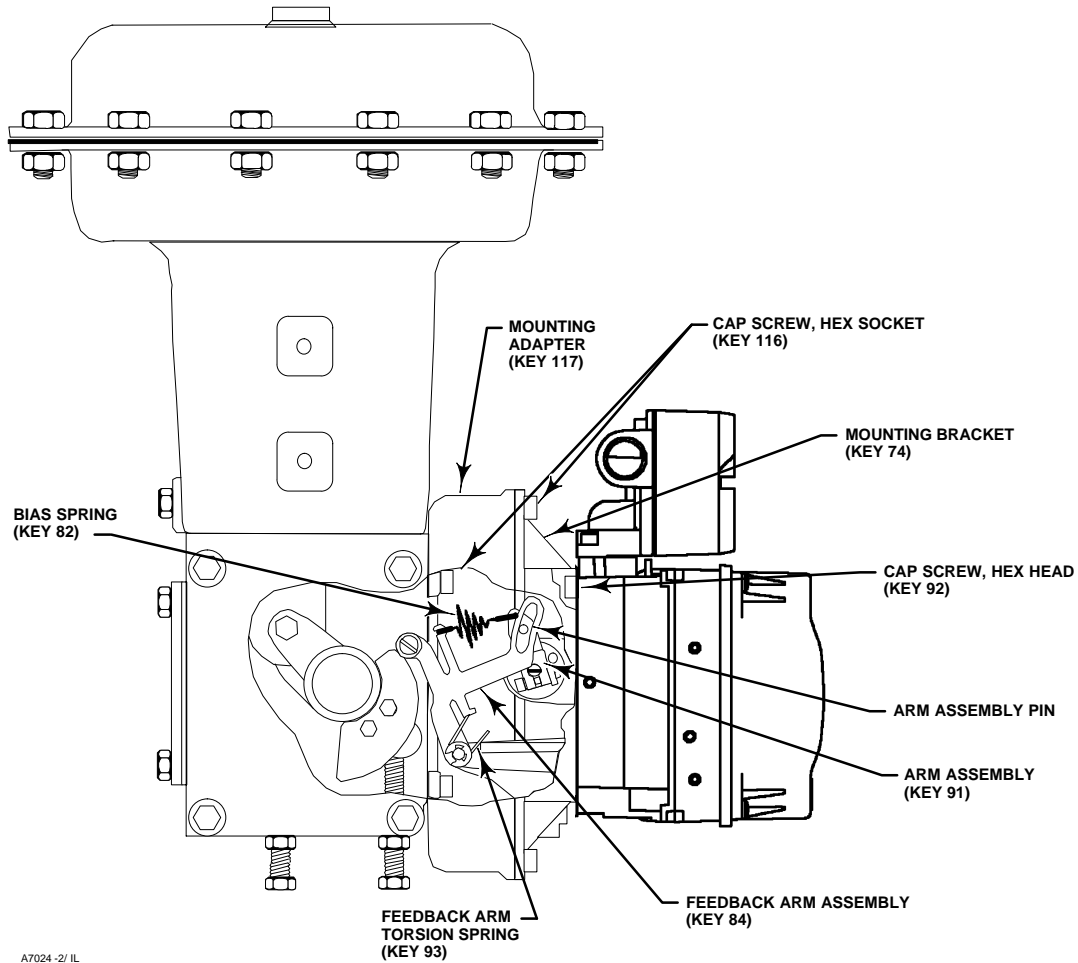

Figure 5-5. FIELDVUE DVC6020f Digital Valve Controller Mounted on Fisher 1052, Size 33 Actuator
2. See figure 5-5 for parts identification. Disconnect the bias spring (key 82) from the feedback arm